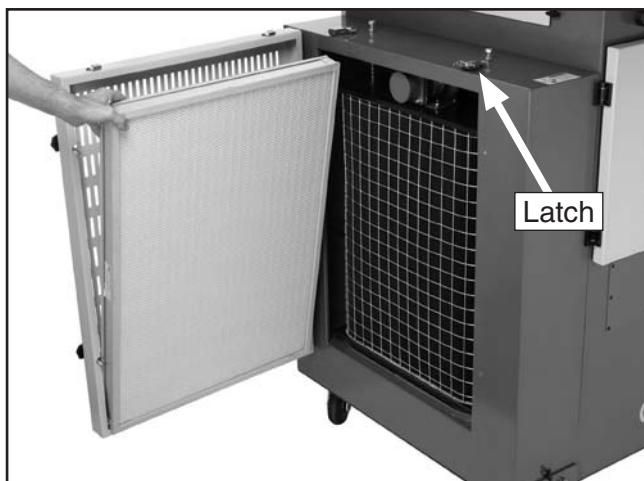

Figure 34. Removing HEPA filter housing.
3. Unlatch the HEPA filter housing, open the housing, and lift the HEPA filter up and out of the housing (**Figure 34**).
5. Using the 14mm wrench or a socket wrench, remove the right-side spring retaining bolt from the cabinet (**Figure 34**).